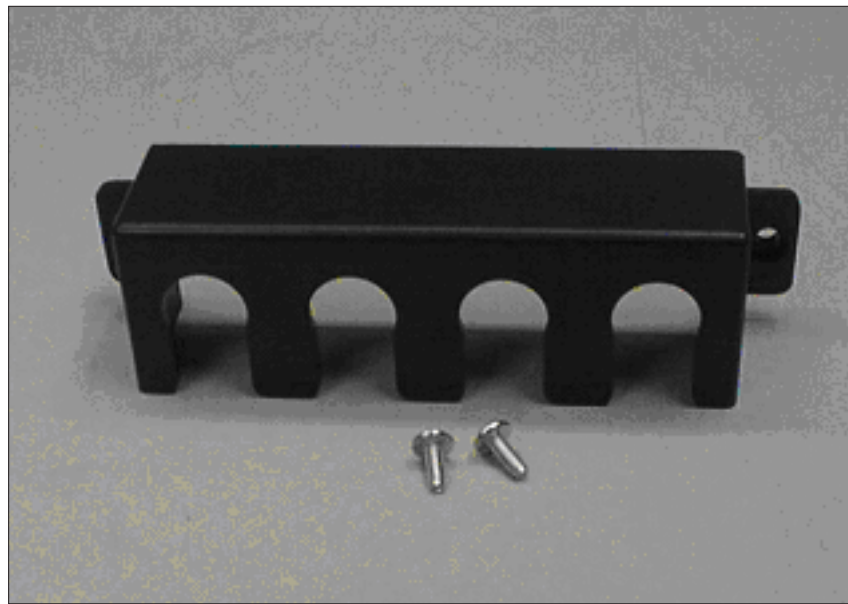

Figure 22. The 2145 UPS-1U cable retention bracket hardware
2. Remove the bracket and the two screws from the packaging. See Figure 22